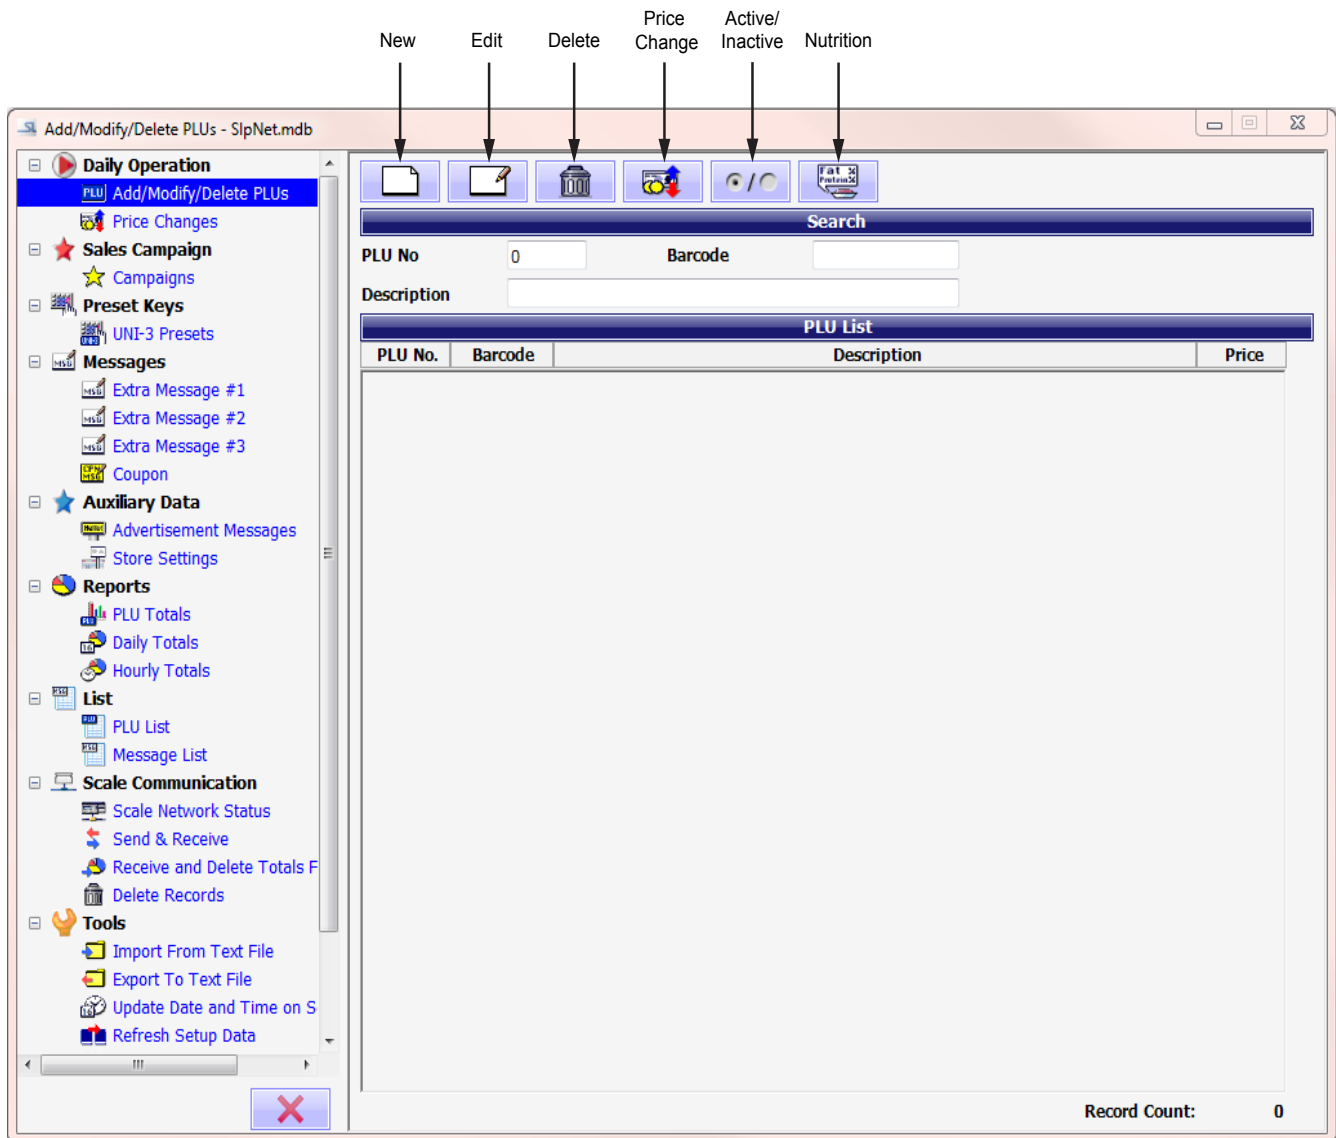

Figure 12-1
1. Select Add/Modify/Delete PLUs from the Daily Operation drop down menu. See Figure 12-1.